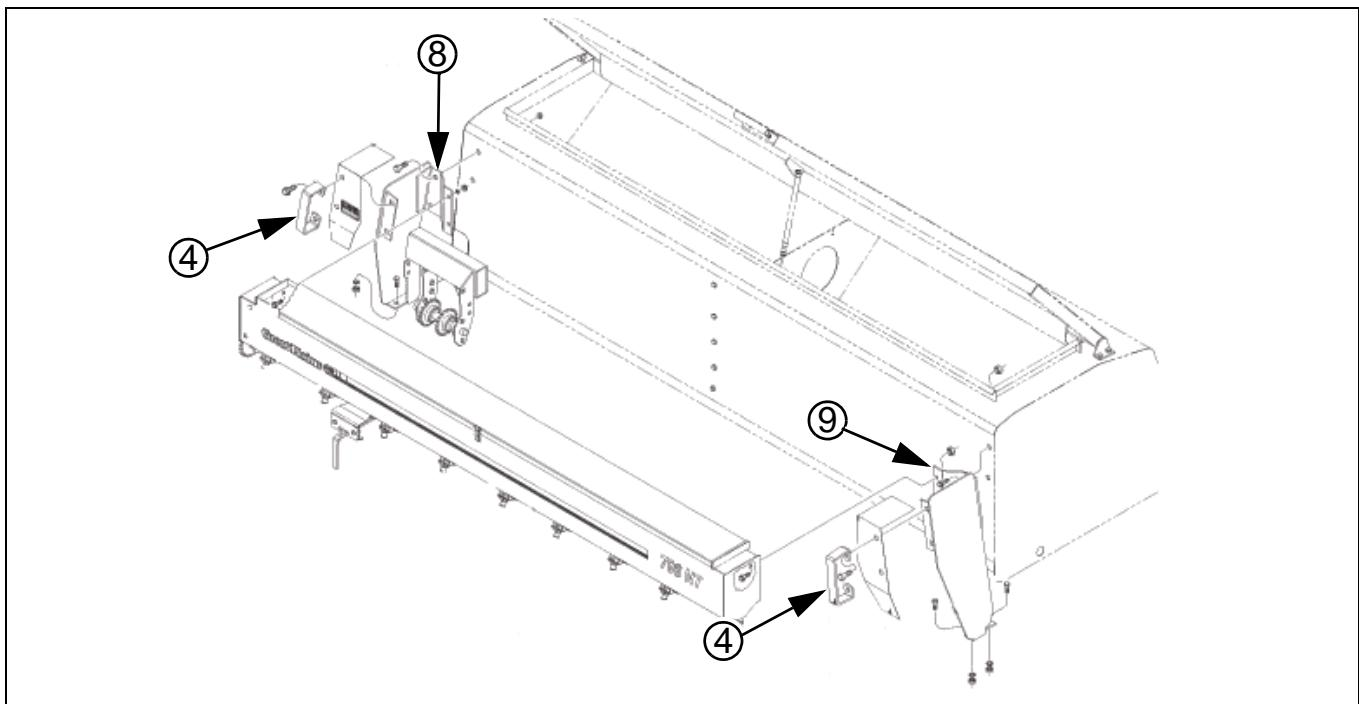

Figure 2
2. Remove ladder ①, ladder mounting bracket ②, and walkboard ③. Save removed items and hardware. Discard ladder mounting bracket ②.
3. Remove and save both box handles ④ and related hardware.
4. Use new walkboard supports ⑤a and ⑤b. Install new walkboard supports to the drill frame end panels with new hardware ($1\frac{1}{2}$ x $1\frac{1}{4}$ bolts, lock washers and nuts).
5. Attach the small grass seed box to the back of the drill box as shown in Figure 2 through the mounting brackets ⑧ and ⑨. Use $1\frac{1}{2}$ x $1\frac{1}{2}$ bolts and $1\frac{1}{2}$ flange lock nuts to attach to the box. Use $1\frac{1}{2}$ x $1\frac{1}{4}$ bolts, $1\frac{1}{2}$ lock washers and $1\frac{1}{2}$ nuts to attach the bracket to the drill frame and walkboard supports.
6. Mount handles ④ to the back of the small seeds box using hardware saved from Step 3.